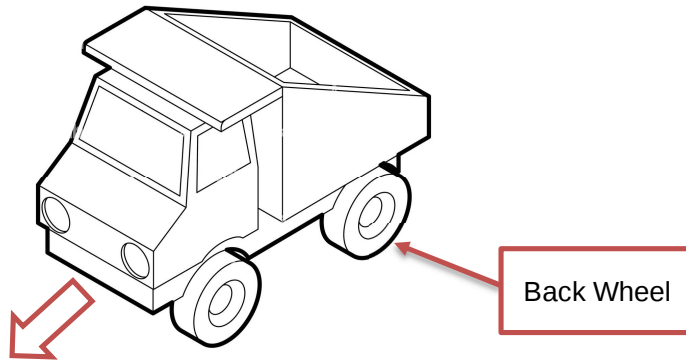

Fig. 3.4
- (c) Fig. 3.4 below shows a small toy truck that will move forward slowly. The movement will be powered by a small DC motor driving the back wheel using simple spur gears.